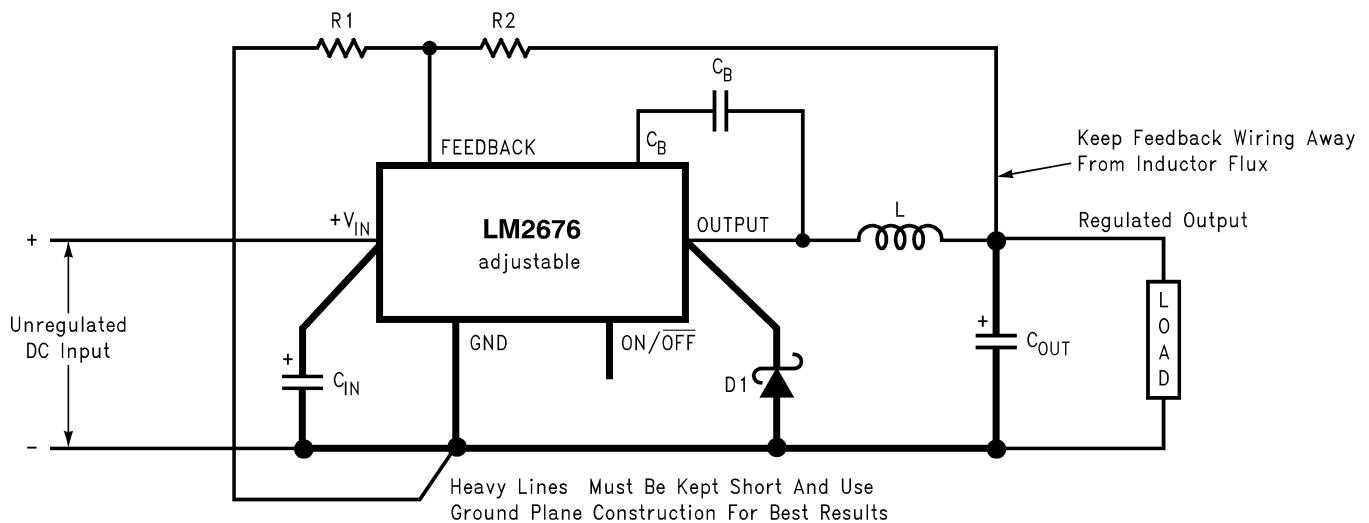

Figure 20. Basic circuit for adjustable output voltage applications
**Step 2:** Select an LM2676S-ADJEP. To set the output voltage to 14.9V two resistors need to be chosen (R1 and R2 in Figure 20). For the adjustable device the output voltage is set by the following relationship: